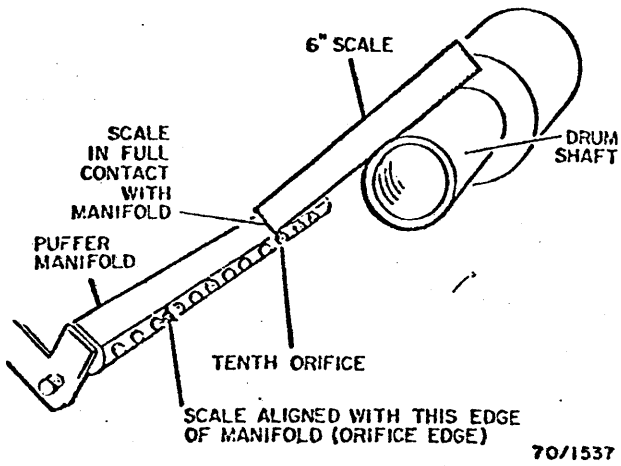

Fig. 3-182. Manifold Angle
11. Remove the scale from the combination square, adjust the angle of the manifold (Fig. 3-182) by placing one end of the scale on the upper flat of the manifold, aligned with the orifice edge of the manifold at the 10th orifice in from the outboard end.